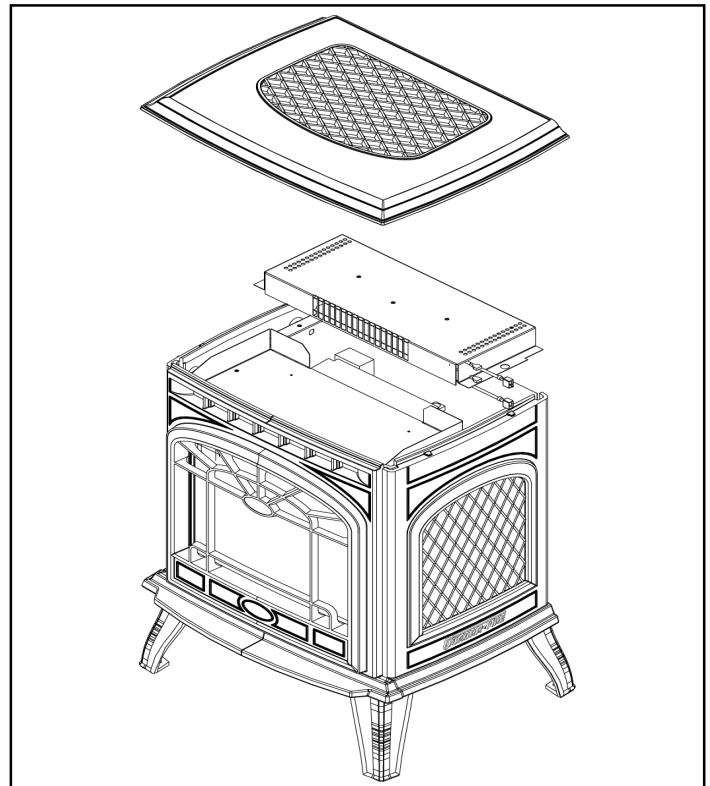

Figure 5 - Remove the Heater System
- Remove the heater system. See Figure 5. Rest it on top of the appliance so it does not fall.